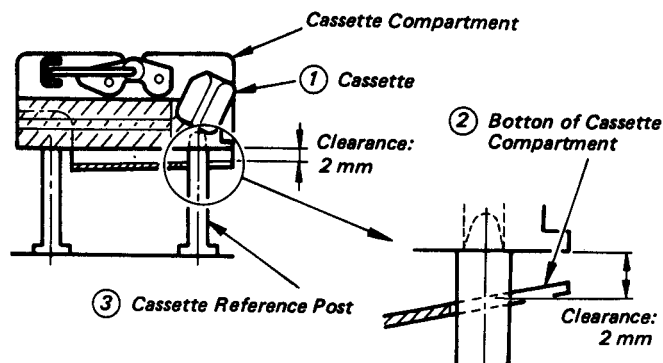

Fig. 5-12 Clearance Between Cassette Bottom and Cassette Compartment Bottom
- Insert the cassette ① into the cassette compartment to lock.
- Check whether the clearance between the bottom of the tape cassette, or the top end of the cassette reference post ③, and the bottom of the cassette compartment ② is 2 mm. (see Fig. 5-12).